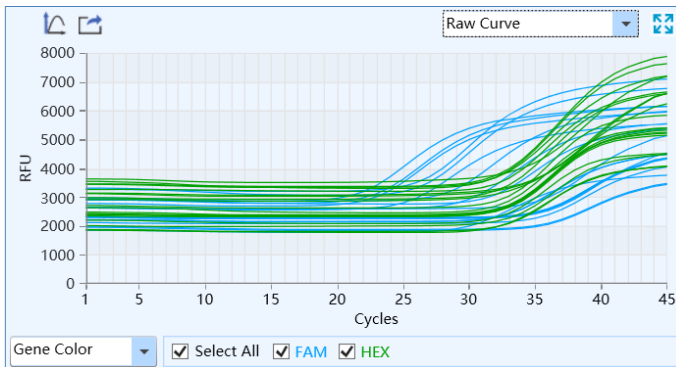

Figure E-10.5 Abs Quant Analysis Interface - Raw Curve Functional Module
V. **Raw Curve**: It displays the diagram of raw amplification curve without subtract baseline, as shown in figure E-10.5. The parameters and function keys of raw curve functional module are the same as those of amplification curve functional module.